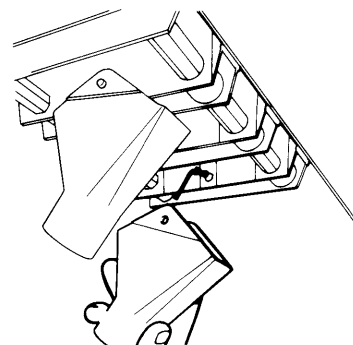

Figure 27
- 1/ Remove the rubber boot from the retaining lugs on the fluted roller housing. (See figure 27)